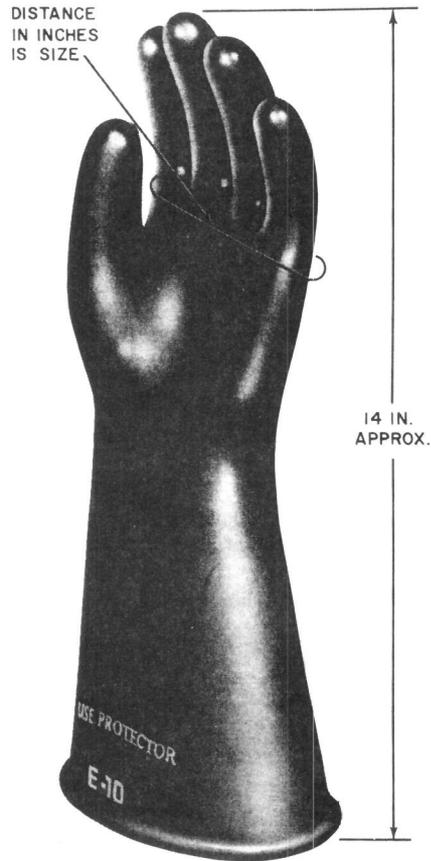

Fig. 1—E Insulating Glove
3.01 All insulating gloves are gauntlet type with sizes 9 1/2, 10, 11, and 12 that are available in types B, C, D, and E. A smaller glove, size 8, is now available in types D and E. The size is equal to the approximate number of inches around the glove measured as shown in Fig. 1. The length of each glove, measured from the tip of the second finger to the outer edge of the gauntlet, is approximately 14 inches (Fig. 1).